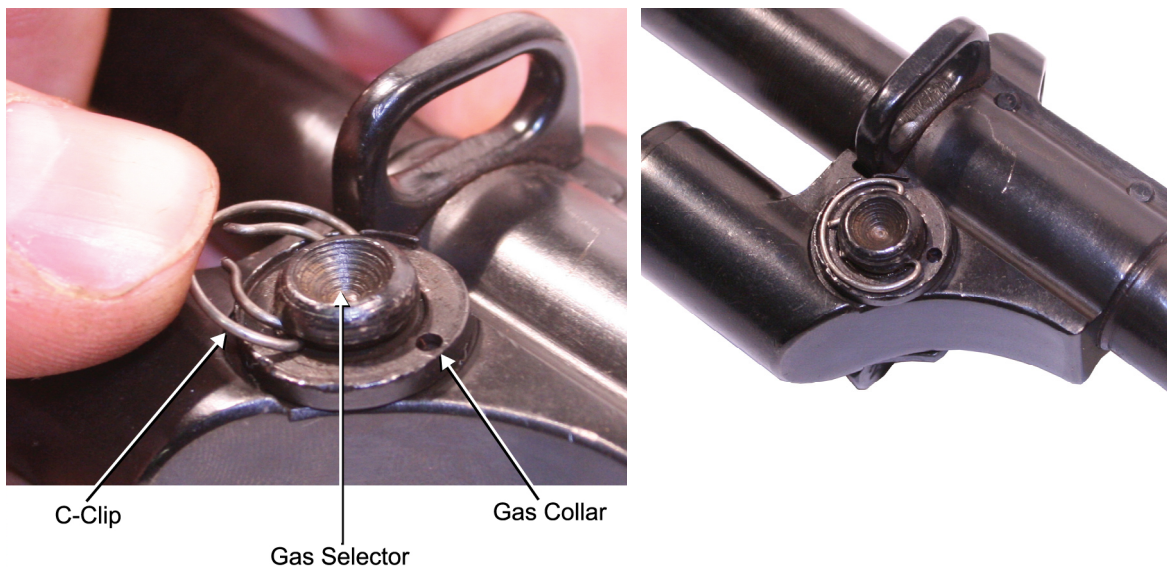

Figure 50. Installing the C-Clip and the C-Clip Installed.
- c. Install the C-clip on the left side of the gas block by pushing the open end of the C-clip against the end of the gas selector until it is seated around the end of the gas selector. Refer to Figure 50.
- b. Using the front sight adjustment tool or the AK-47 combination tool, install the front sight post. Refer to Figure 50.